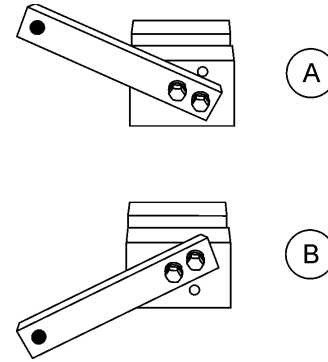

Figure 43. Trowel Arm Adjustment Setup
- Ensure the fixture arm is in the proper setting (up or down) for your trowel arm rotation as shown in Figure 43.
Arms with CLOCK-WISE blade rotation use the fixture arm in the UP position (Figure 43, A). Arms with COUNTER CLOCK-WISE blade rotation use the fixture with the fixture arm in the DOWN position (Figure 43, B).
Refer to Figure 43 when installing pans onto finisher blades.